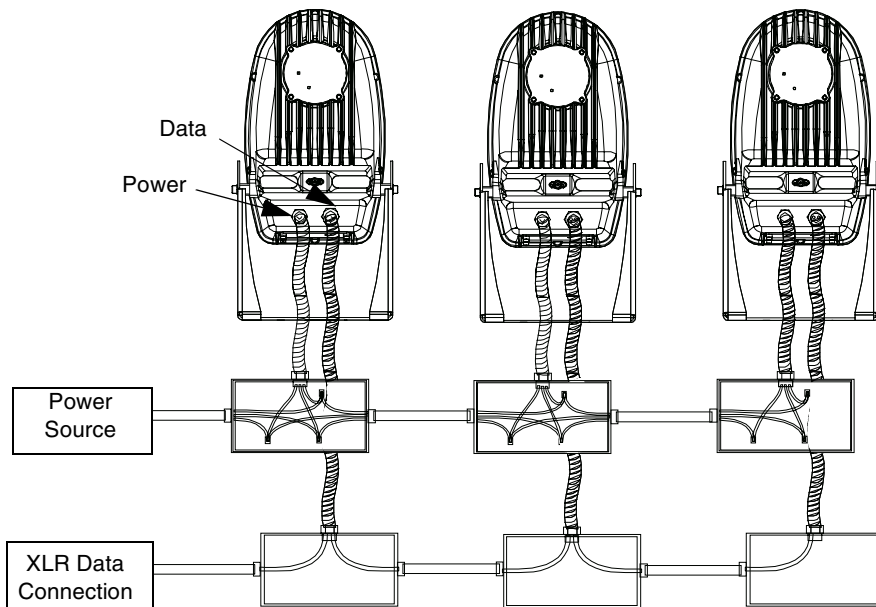

Figure 9 Linking the fixtures
Figure 9 shows the wiring configuration for linked fixtures in a permanent installation. Power and Data must be run in separate conduit .
2. Attach 1/2in. flexible, metal-lined, sealtight conduit from the junction box to the fixture’s power connection. Electrical connections are made in each junction box as shown in Figure 9. (see “Wire Routing”, page 9 for specifications).